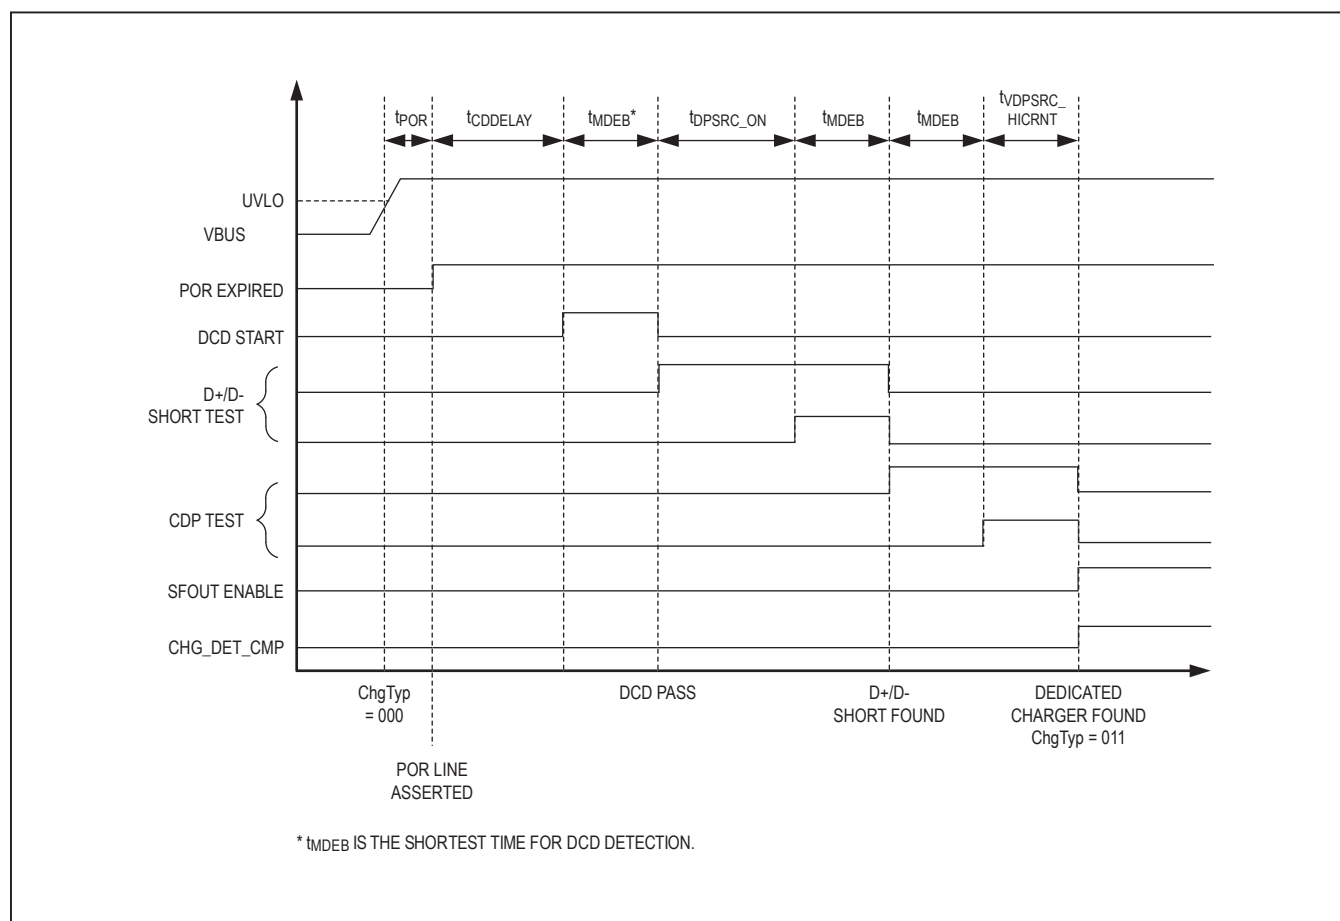

Figure 4. USB Dedicated Charger Detection Timing
- 3) Apple charger detection, special charger detection, (including 5V bias on D+/D- (MAX14616A only)) and Dedicated Charging Ports (DCP) detection (Figure 4).